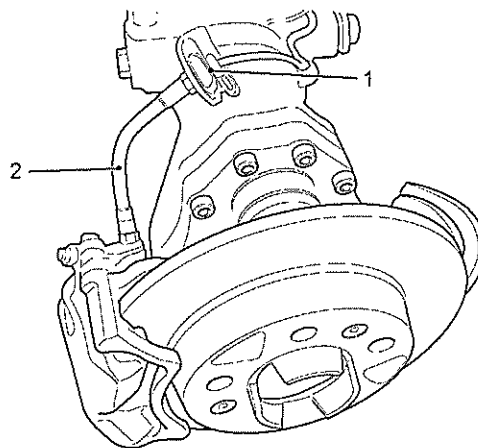

Fig 12 Brake pipe connections (typical)
- 32 Loosen brake hose to calliper at retainer at wheel drive housing (see Fig 12 (1 and 2)) and plug brake line to avoid excessive fluid loss.